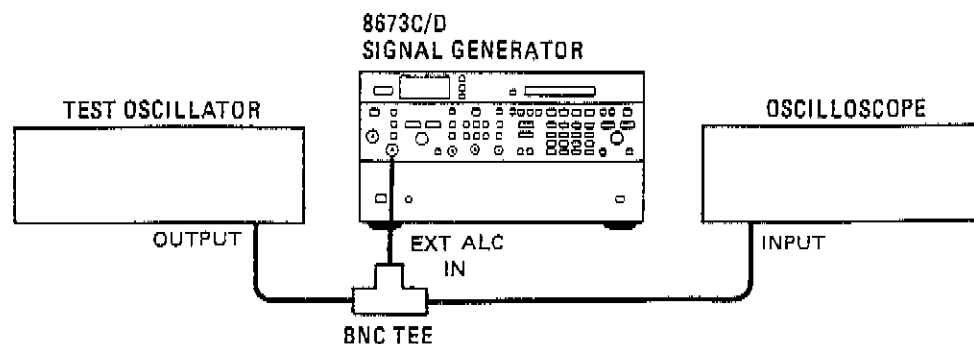

Figure 8-47. External ALC Check Test Setup
15. Set the Signal Generator for external ALC (POWER METER) and connect the test equipment as shown in Figure 8-47.